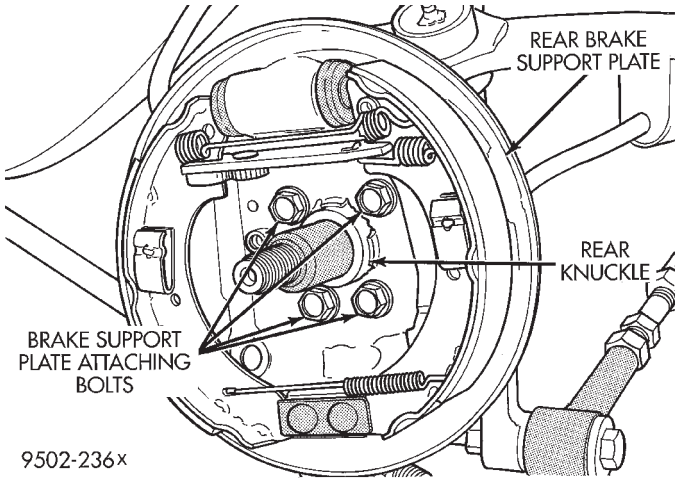

Fig. 13 Rear Brake Support Plate Mounting Bolts
(7) Remove the 4 bolts (Fig. 13) attaching rear brake support plate to knuckle. Then remove brake
(5) Install rear brake support plate assembly onto the knuckle. Install the 4 bolts (Fig. 13) attaching rear brake support plate to rear knuckle. Tighten the attaching bolts to a torque of 61 N·m (45 ft. lbs.).